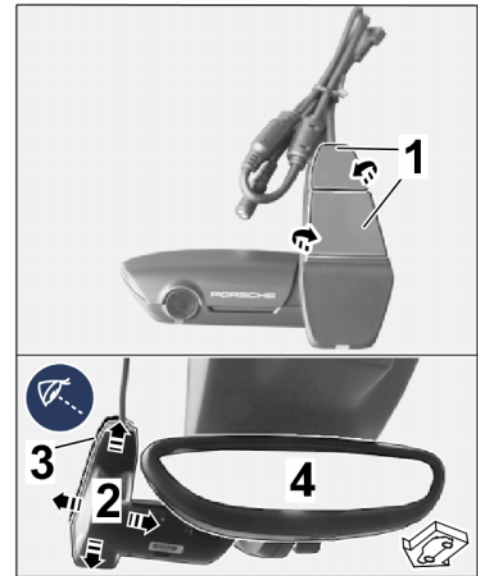

Figure 10
2.2.4 Pull protective film off the front camera retainer plate. ⇒ *Figure 10-top-*
Align front camera with retainer plate symmetrically with respect to the 3M privacy film. ⇒ *Figure 10-bottom-*